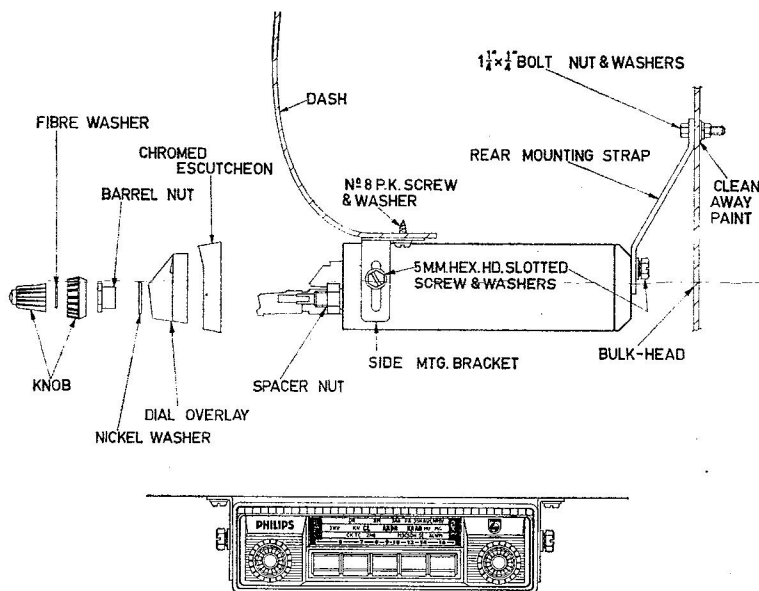

FIG. 1
1. Under Instrument Panel or Parcel Shelf (Fig. 1).
Referring to the diagram (Fig. 1) fit the two slotted side mounting brackets to the receiver.